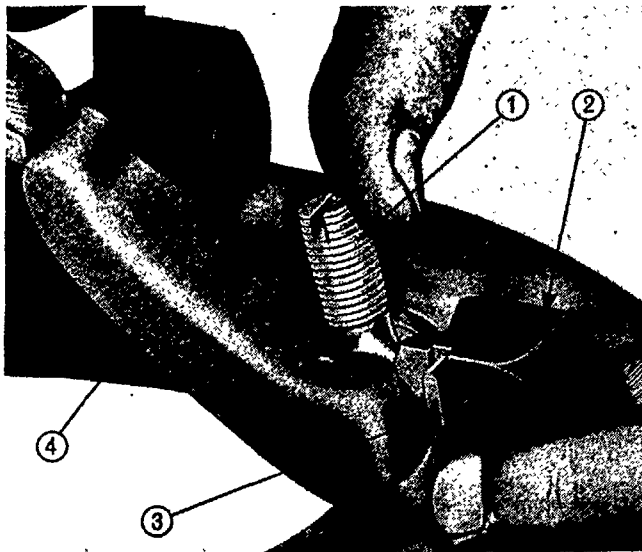

Figure 22
7. Hold the inner ends of the release levers, Figure 22, upwards against the eyebolts and move the struts until the eyebolts and release levers can be removed from the pressure plate.